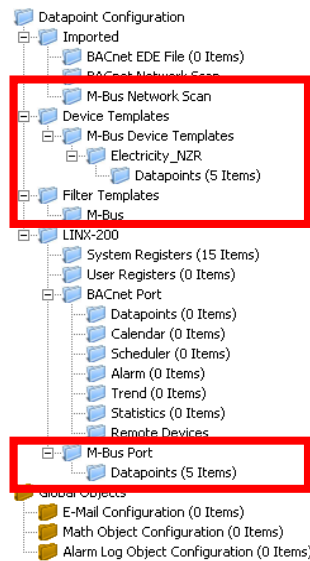

Figure 131: Data Point Manager Dialog with M-Bus folder list
- The folder list (Figure 131)